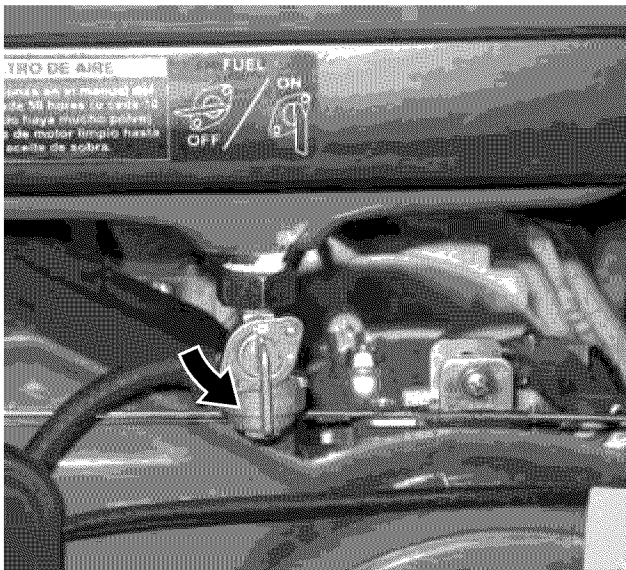

Figure 27 – Fuel Shutoff Valve in the **ON** Position
3. Move the fuel shutoff valve to the **ON** position (see *Figure 27*).